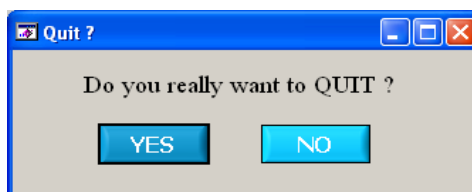

Figure 6. Quit Window
If the evaluation software is unable to establish a communication link with CDB5461AU an error message will appear, indicating that the initial communication has failed. See Figure 6.
*Quit* allows the user to exit the evaluation software. Upon selecting *Quit*, a message windows appears that verifies whether exiting the evaluation software is desired. See Figure 6.